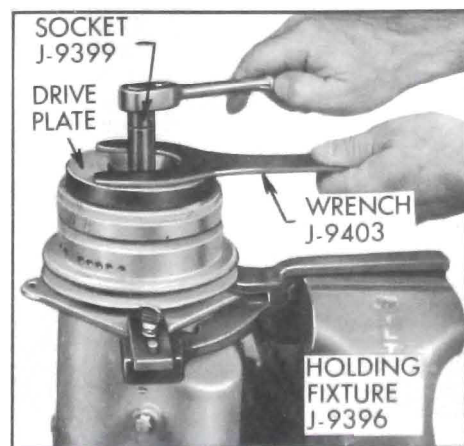

Figure 11-41—Removing Shaft Nut
**NOTE:** If compressor is removed, for the following procedures, firmly clamp holding fixture J-9396 in vise and attach compressor assembly to fixture. See Figure 11-41.
1. Hold the clutch drive plate hub with J-9403 wrench and use J-9399 special thin wall 9/16" socket to remove shaft nut. See Figure 11-41.